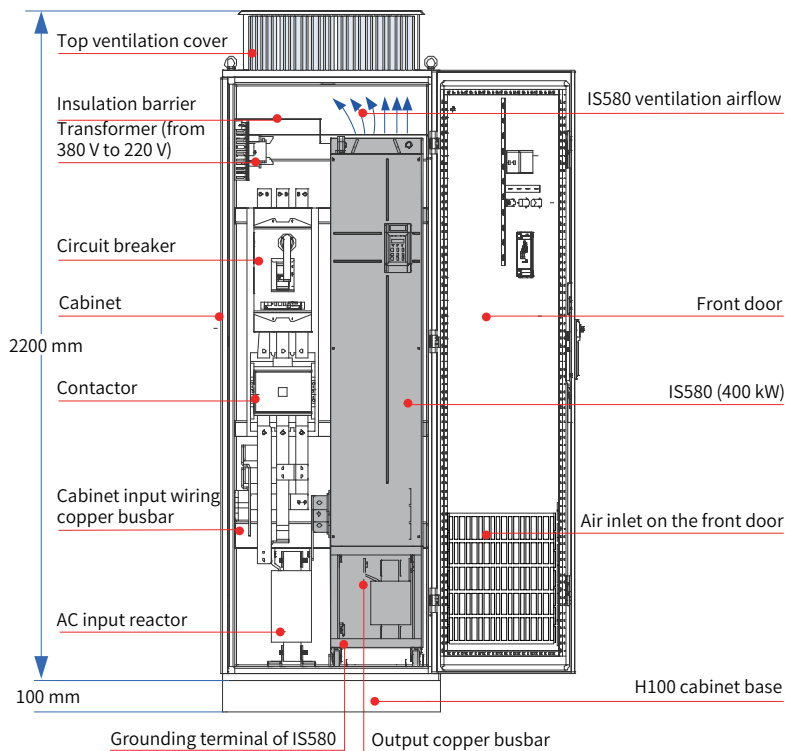

Figure 3-15 Recommended cabinet layout
- ◆ See Figure 3-15 for cabinet layout before installing the servo drive in the cabinet. The cabinet dimensions is 2200 x 800 x 600 (unit: mm), with the top ventilation cover (height: 200 mm) included. A cabinet base with a height of 100 mm is required for installation. An insulation barrier must be installed at the top of the cabinet to avoid the circulation of ventilation airflow of IS580 in the cabinet. Additionally, air inlet openings must be provided at the bottom of the cabinet door.